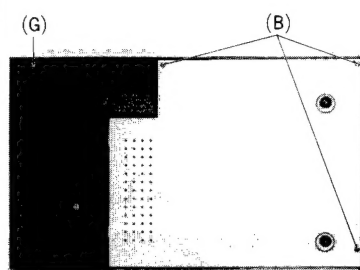

Fig. 2
A Head position adjustment Condition: * Playback and pause mode	<p>(The head adjusting plate is provided to adjust the tape touch of the head in cue or review mode.)</p> <ol style="list-style-type: none"> 1. Press the playback button and pause button. 2. Measure the space between the pinch roller and the capstan. <div style="border: 1px solid black; padding: 5px; width: fit-content; margin: 10px auto;"> Standard value: $0.5 \pm 0.3\text{ mm}$ </div> <ol style="list-style-type: none"> 3. If the measured value is not within the standard value, untighten screw (A), and slide the head adjusting plate in the direction of arrow (B) for adjustment (Fig. 2).  <p style="text-align: center;">Fig. 2</p>